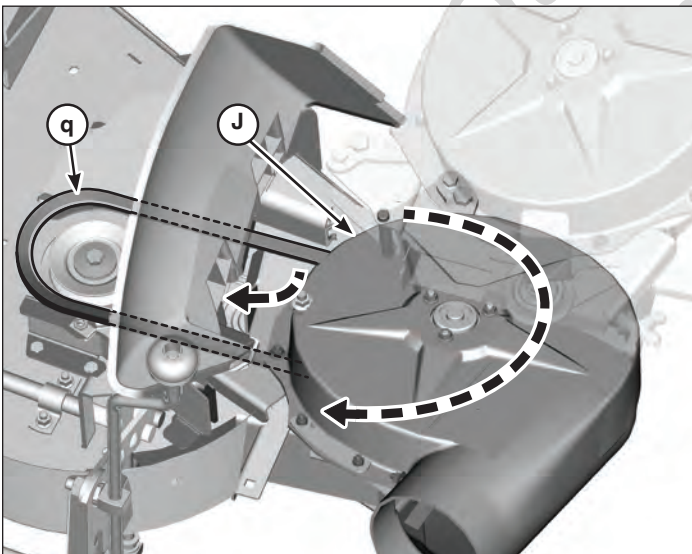

Figure 13
2. Fully rotate turbo assembly (J, Figure 13) toward mower ensuring the belt (q) is under the deflector and deflector bracket.